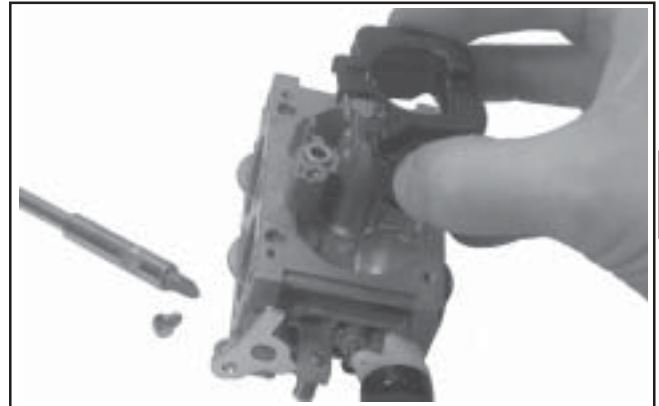

Figure 5-23. Removing Float and Inlet Needle.
2. Remove the float pin screw and lift out the old float, pin, and inlet needle. See Figure 5-23. Discard all the old parts. The seat for the inlet needle is not serviceable, and should not be removed.